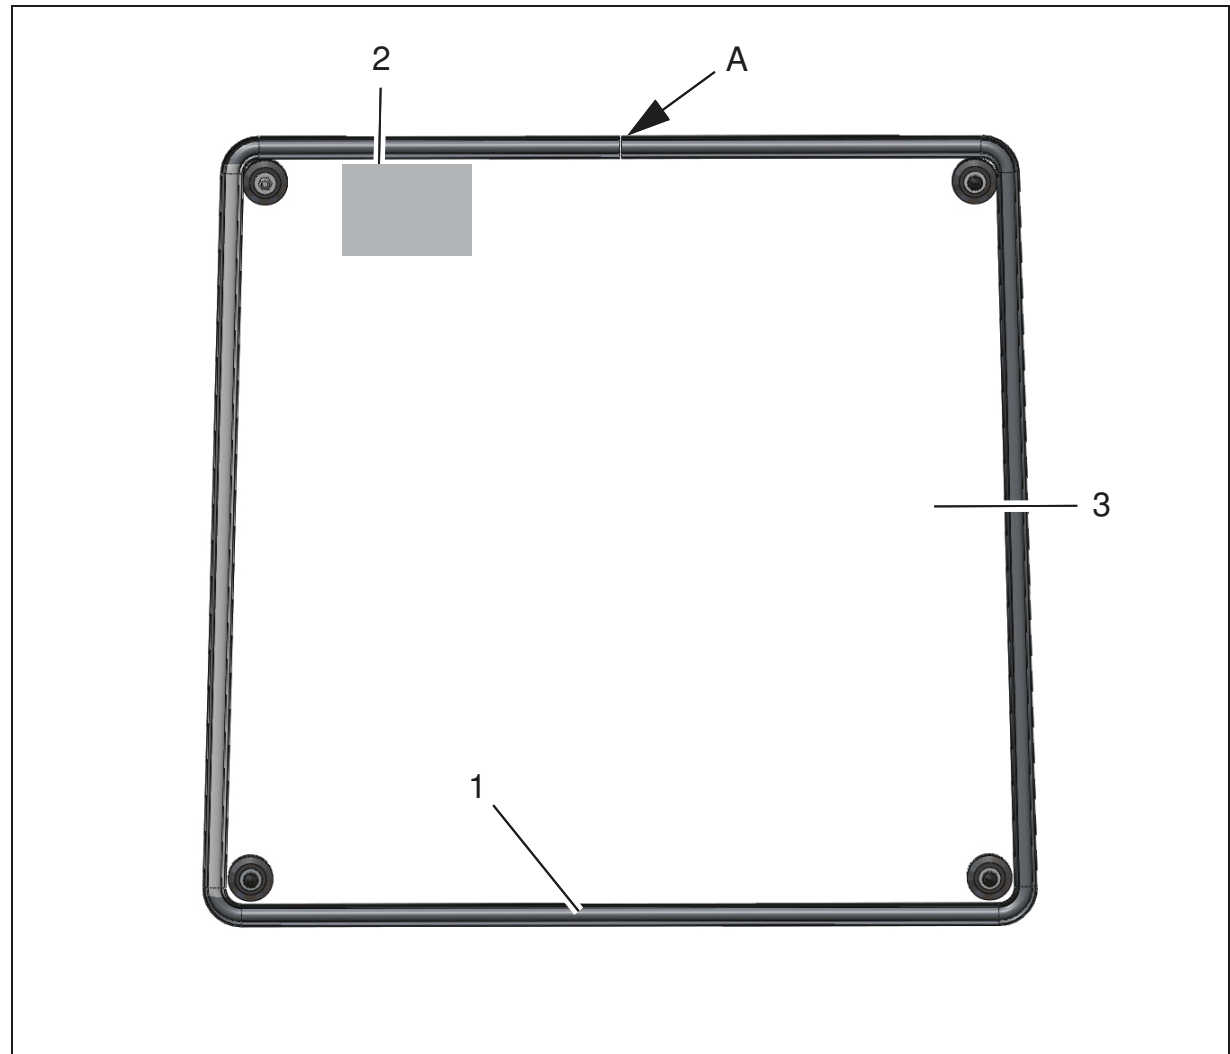

Fig. 7
1. Assemble the edge protection (Fig. 7/1) for the windscreen, align the joints at the top (Fig. 7/A).
2. Fix the windscreen wiper motor (Fig. 7/2) to the cab roof.
3. Assemble, align and fix the windscreen (Fig. 7/3) to the front frame of the cab safety roof using the M 8 x 35 screws, sealing shims, washers and M8 nuts.